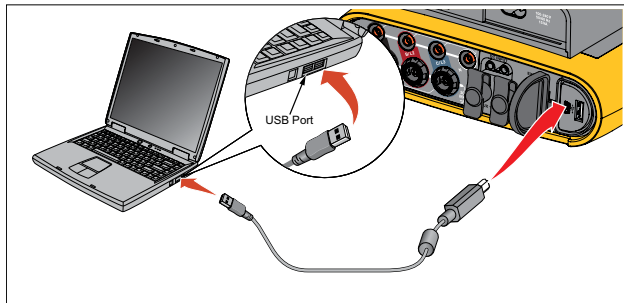

Figure 8. Power Logger to PC Connections
3. Connect the USB cable to the USB ports of the computer and the Logger. See Figure 8.